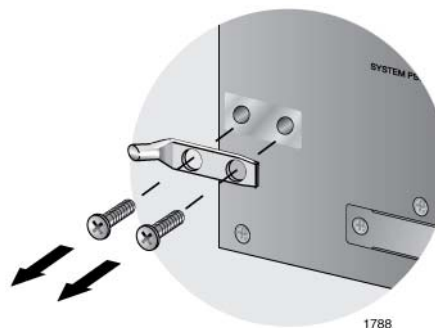

Figure 43. Removing the Grounding Lug
2. Remove the two screws that secure the grounding lug to the rear panel of the chassis, as shown in Figure 43.